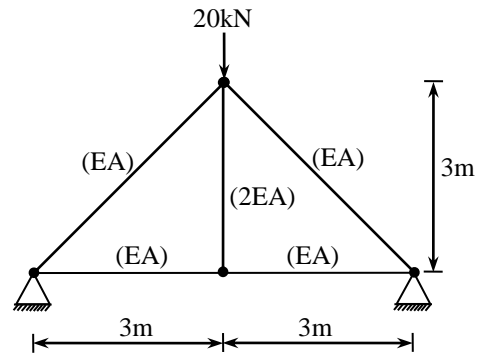

Fig. 4 Q-4(a)
- Q.4** (a) Using symmetry of the structure, determine displacements for the plane truss shown in fig. 4. Use stiffness member approach. **07**